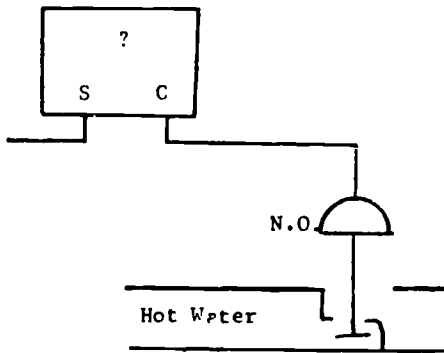

Figure 15
c. Refer to Figures 15, 16, 17, and 18 as necessary to complete the following loops.